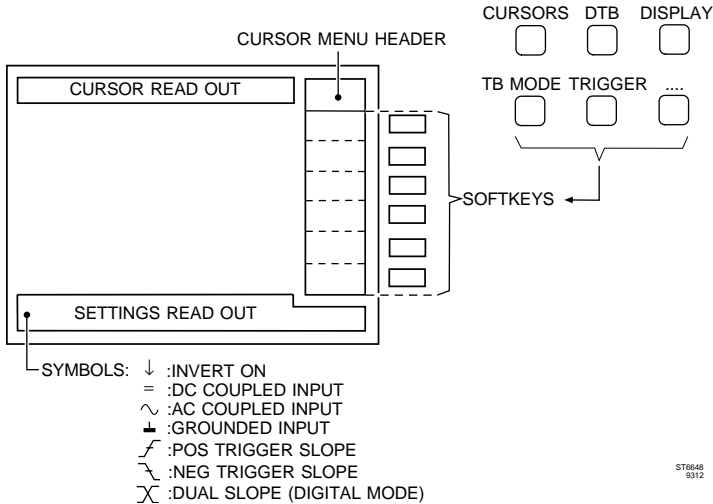

Figure 3.2 CRT viewing area, softkeys, menu keys, and symbols used in this chapter.
- Information about active instrument settings is indicated on the viewing area as shown in Fig. 3.2.